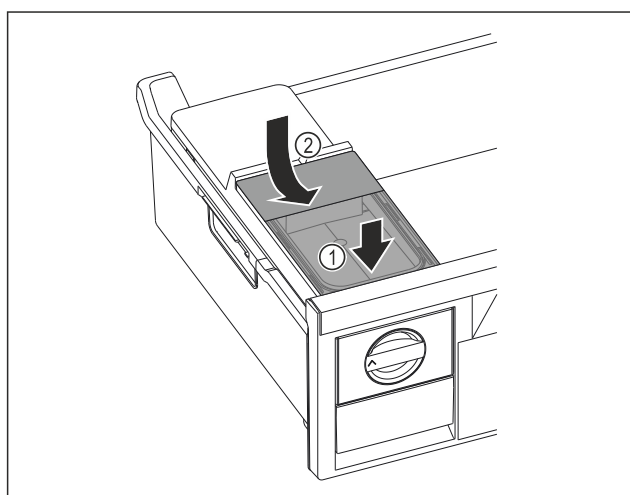

Fig. 151
- Position the water tank at the front. Fig. 151 (1)
- Lower the water tank at the rear. Fig. 151 (2)